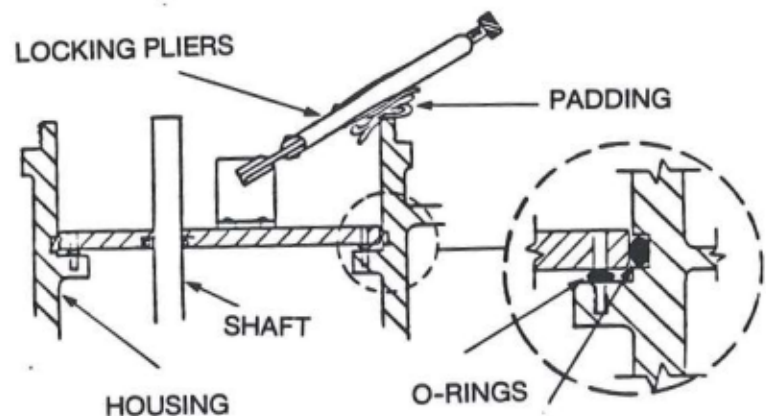

Figure 5-14. Removing the Control Plate
- 8). Clamp a pair of locking pliers onto the Control Plate Removal Clamp at a slight angle approximately 30° (see Figure 5-14).
- 1). Single Phase Hydramotors only: Remove screws 3 and 4 from Terminal Block No. 1 (see Figure 5-14). Replace the capacitor (641) if bad. Replace the screws in the Terminal Block (630).
- 2). Remove the screws (635) that secure Terminal Block No. 1 (630) to the housing. Remove Terminal Block No. 1, complete with its O-ring 16 and spacer (628).
- 3). Remove two screws that secure blank Terminal Block No. 2 (634) to the housing. Remove this blank Terminal Block complete with its O-ring (16) and spacer (628).
- 4). Remove the housing from the Power Module Work Stand and remove the two oil drain plugs (619) from the rear of the housing.
- 5). Separate the cylinder (501) from the cap (02), remove the shaft (507) with piston assembly from the cylinder and remove the stand pipe (617).